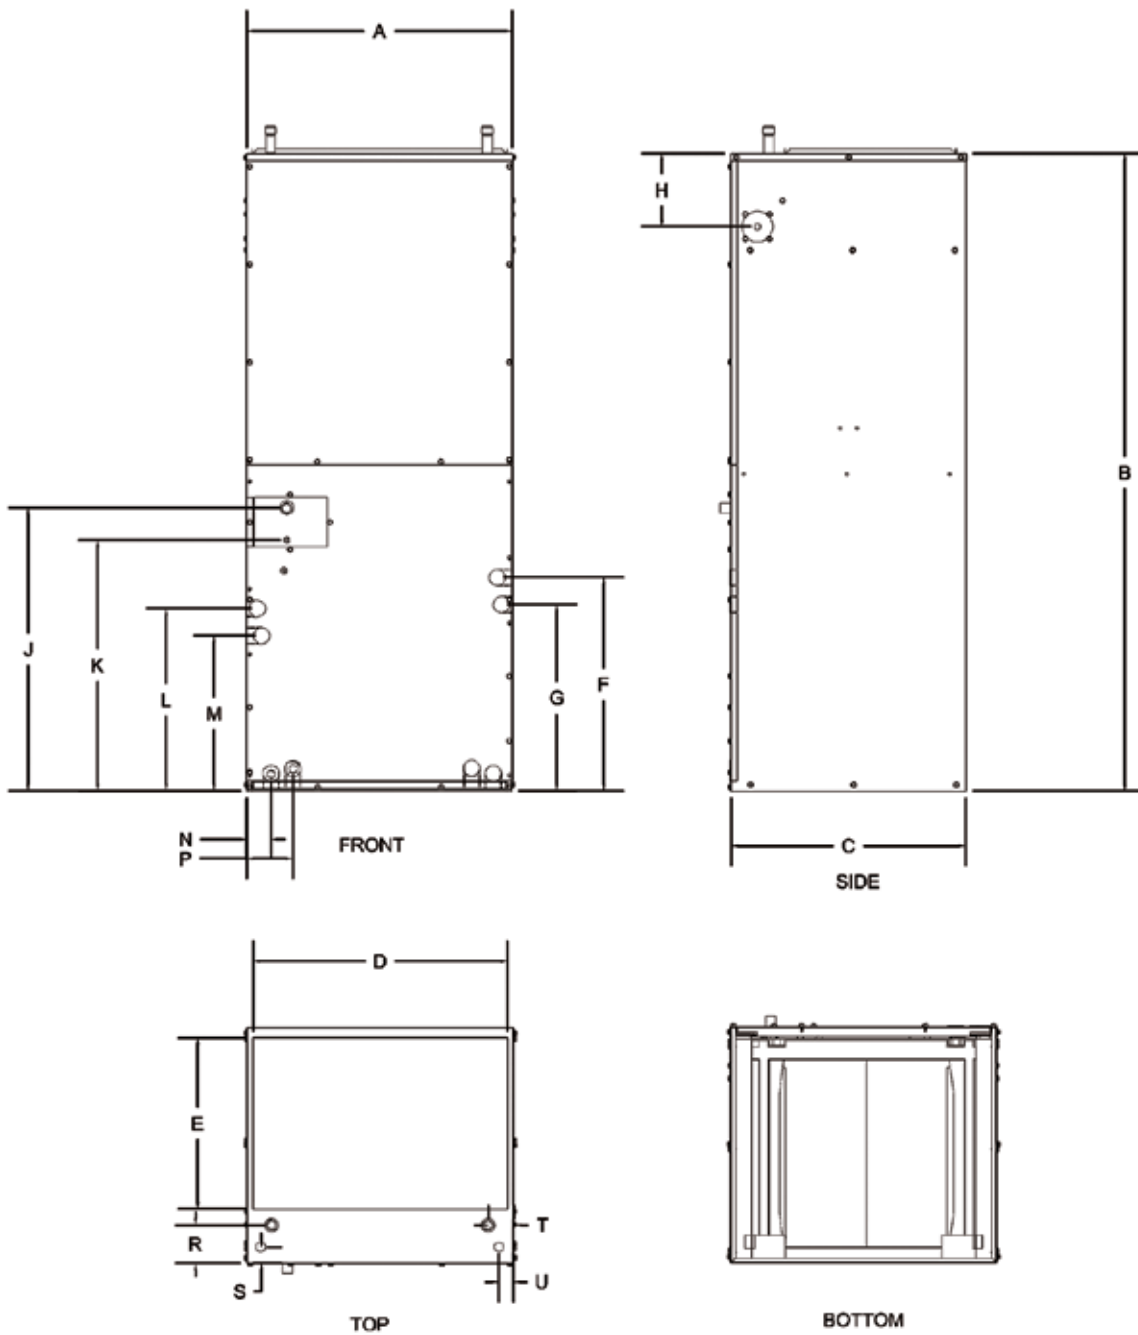

Figure 1: Air Handler Dimensions
1. Refer to the air handler rating plate for the air handler model number and then refer to Figure 1 for return air plenum dimensions that apply to that model number. The plenum must be installed according to the above listed codes or the instructions in this manual.